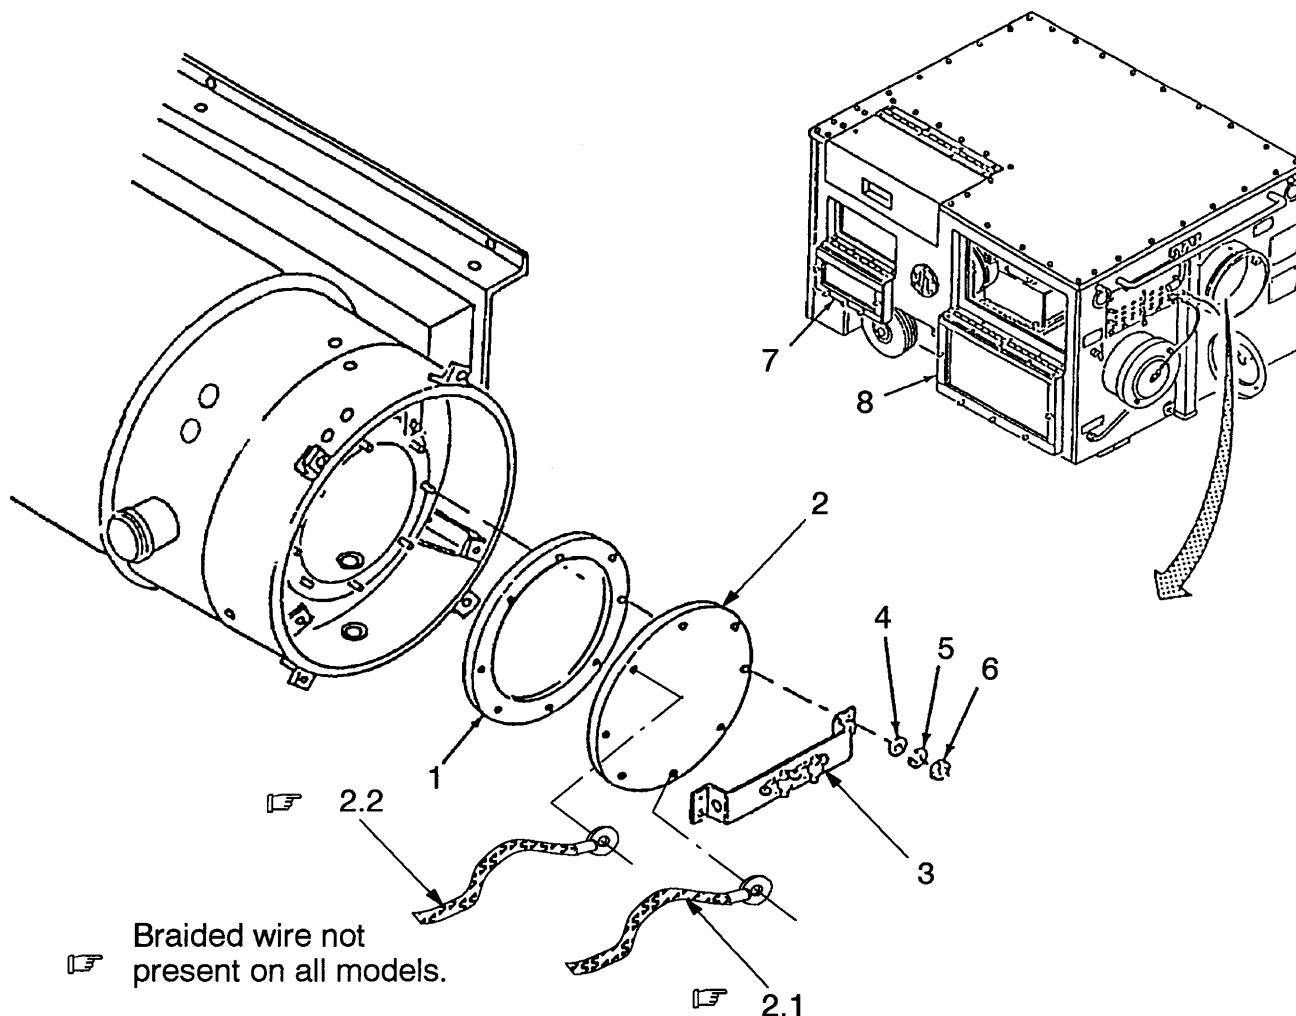

Figure 4-66. Heat Exchanger Installation
c. Installation -continued (Refer to Figure 4-66)
(11) Install gasket (1)(Item 59, App F) and cover (2).